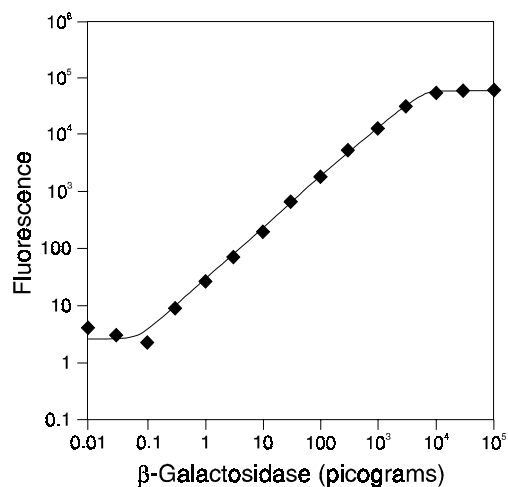

Figure 1. Example of a standard curve using the FluoReporter® lacZ/Galactosidase Quantitation Kit.
The CUG substrate and an aliquot of cell extract or other β -galactosidase-containing solution are added to each microplate well. After an incubation period, the reaction is terminated by adding stop buffer, which raises the pH of the sample. The fluorescence of each sample is then measured using a fluorescence microplate reader. The fluorescence signal can be converted into picograms of β -galactosidase by using a standard curve, if desired. This assay has a linear detection range of about 0.5 to over 1000 pg β -galactosidase (Figure 1). The lower detection limit corresponds to about ten *lacZ*-positive NIH 3T3 cells per well. The following protocol describes the assay of mammalian cell extracts using a fluorescence microplate reader and may require some modification when assaying bacterial or yeast cell extracts¹⁻⁴ or β -galactosidase conjugates in an ELISA.⁵
3.1 To generate a standard curve, first subtract the fluorescence of the blank from that of each of the samples containing the purified β-galactosidase solutions. If the standard curve will be used for comparison with assays performed at a later date, divide the background-subtracted fluorescence of the β-galactosidase standards by the background-subtracted fluorescence of the reference standard. Plot the resulting corrected fluorescence intensities versus enzyme amount on a log-log scale. Note that the values for enzyme amount must be adjusted to compensate for the purity of the enzyme preparation. Alternatively, fluorescence can be plotted versus units of β-galactosidase activity. A standard curve (without reference standard normalization) should resemble the one shown in Figure 1.